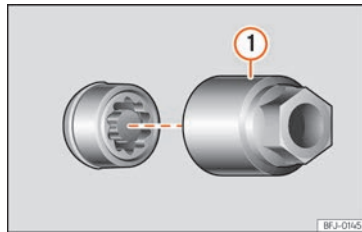

Fig. 42 Anti-theft wheel bolt with cap and adapter.
- Insert the special adapter » Fig. 42 ① (vehicle tools » page 44) onto the anti-theft wheel bolt and push it on as far as it will go.